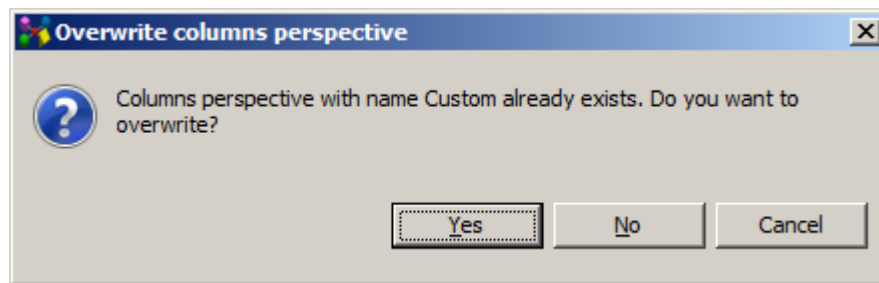

Figure 3. Overwrite columns perspective dialog window
- The dialog window appears to confirm, whether you want to overwrite the perspective name or not (see Figure 3).